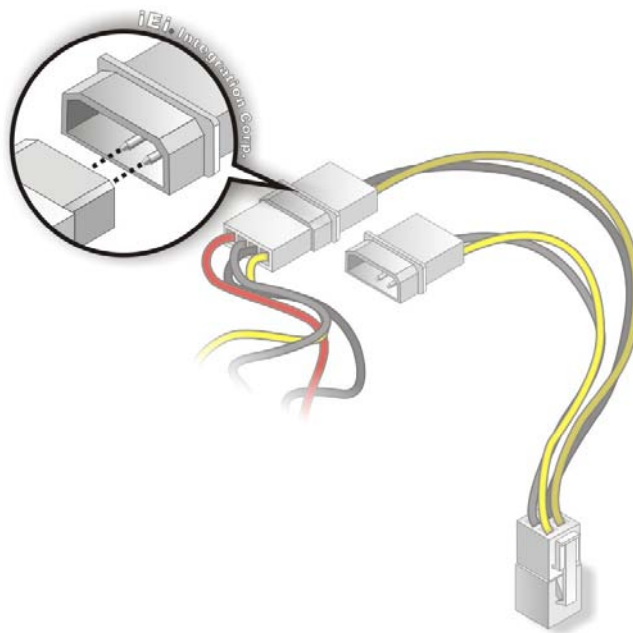

Figure 4-13: Connect Power Cable to Power Supply
Step 3: Connect Power Cable to Power Supply. Connect one of the 4-pin (1x4) Molex type power cable connectors to an AT power supply. See Figure 4-13.